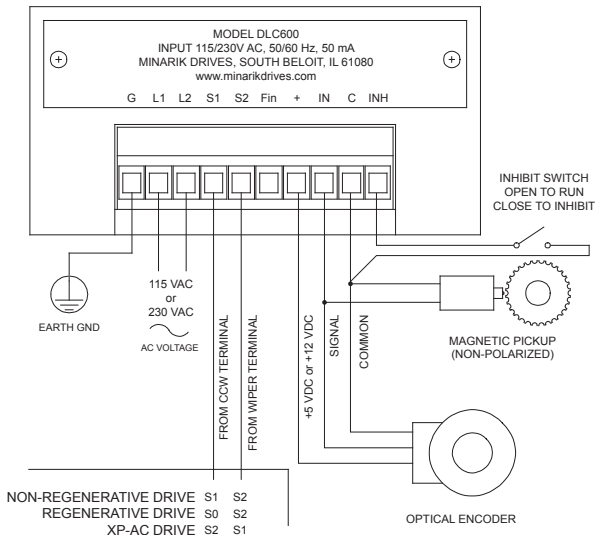

Figure 6. DLC600 Connections
If using a non-regenerative drive, connect the DLC600 S1 to drive S1 and the DLC600 S2 to drive S2. Refer to Figure 6 on page 11.
If using a regenerative drive, connect the DLC600 S1 to drive S0 and the DLC600 S2 to drive S2. Refer to Figure 6 on page 11.
If using a XP-AC series drive, connect the DLC600 S1 to drive S2 and the DLC600 S2 to drive S1. Refer to Figure 6 on page 11.
Only one feedback source may be used at a time. Refer to Figure 6 on page 11.
Short terminal INH to common (C) to inhibit the DLC600. The DLC600 output will drop to the MIN trim pot setting. Remove the short to resume operation. Refer to Figure 6 on page 11.